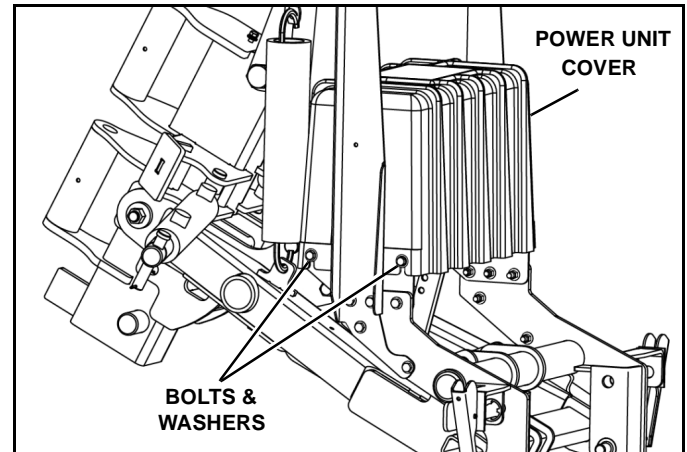

Figure 1-37
3. Loosen two bolts and washers on each side and remove the power unit cover. (See Figure 1-37).